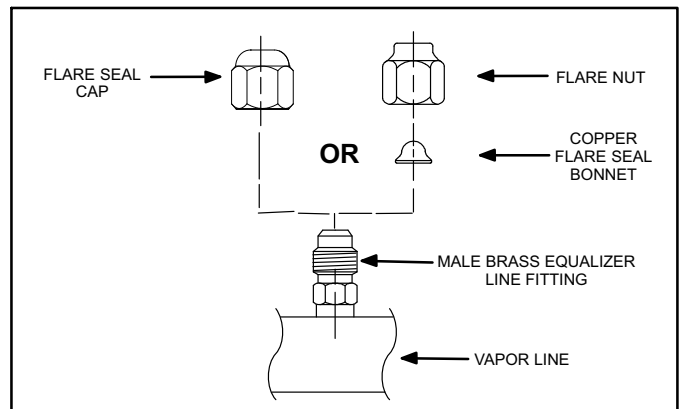

Figure 5. Copper Flare Seal Bonnet Removal
6. Remove and discard either the flare seal cap or flare nut with copper flare seal bonnet from the equalizer line port on the suction line as illustrated in Figure 5.